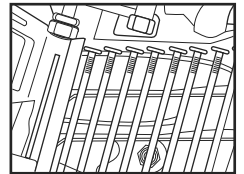

Figure 3
3. **Load the coil of nails:** Place the coil of nails over the post in the canister. Uncoil enough nails to reach the feed pawl. Place the first nail in front of the front tooth on the feed pawl in the driver channel. The nail heads must be in the slot in the nose. (See Figure 3)